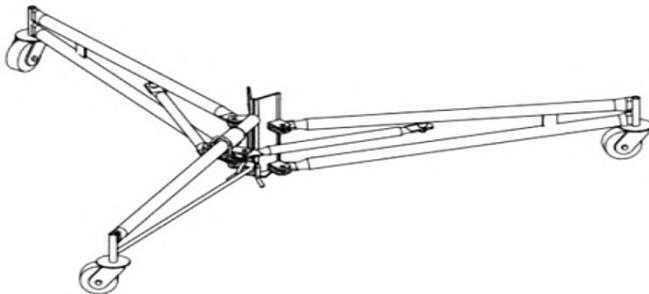

Figure 13
- When all legs are connected, Final base assembly will look as shown in Fig. 13.